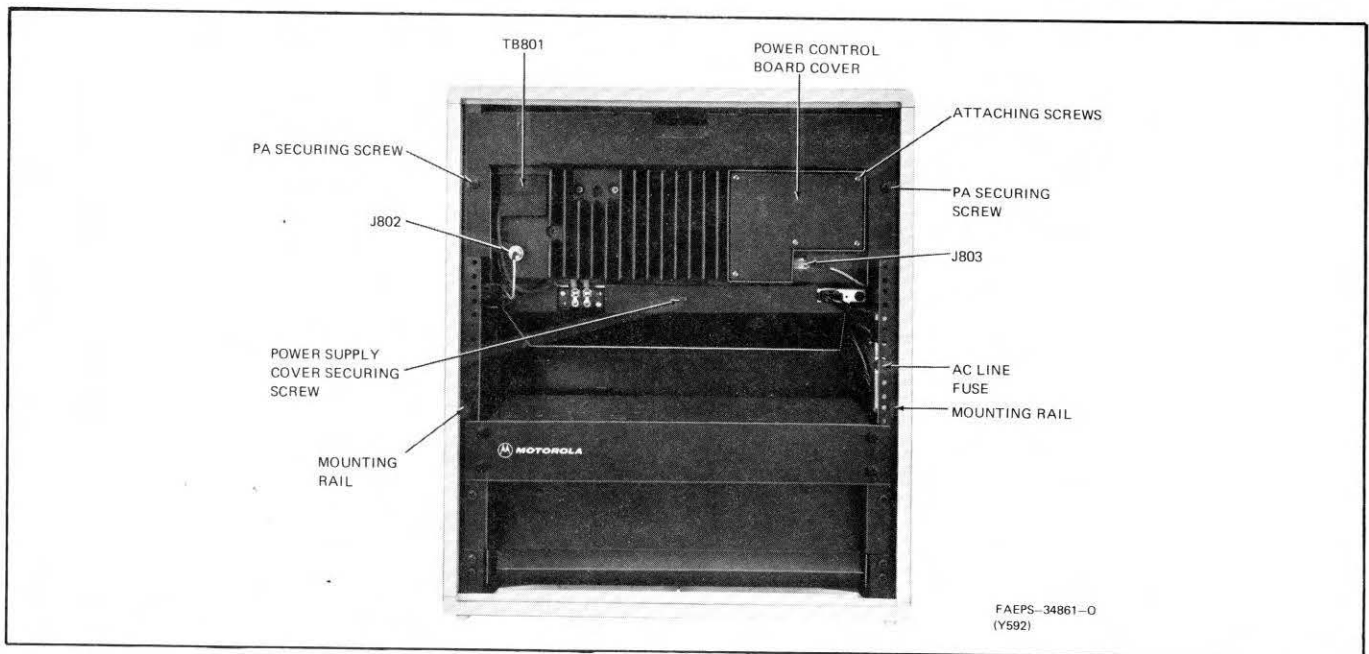

Figure 1. PA and Power Supply Detail of Intermittent Duty Station
5.1.2 The ac line fuse is located on the front side of the junction box at the right-hand side of the cabinet (refer to Figures 1 and 3). To replace the fuse, disconnect the line cord from the junction box. Unscrew the fuseholder cover from the fuseholder with a screwdriver.
5.2.1.1 To gain access to the power control board for servicing and metering, remove the 5 screws holding the cover over the power control board area of the PA casting (refer to Figure 1).
5.3 RF CONTROL CHASSIS ACCESS AND REMOVAL (Refer to Figures 1 and 3.)
5.7.2 To gain access to the power supply chassis, remove the power supply cover plate located under the PA chassis. It is retained by a single screw in the upper center of the cover (refer to Figures 1 and 3). For continuous duty stations, remove the top power supply cover plate located directly behind the PA chassis. It is retained by two screws located in the lower left and right hand corners. It may also be necessary to remove the PA chassis from the station housing, refer to the Power Amplifier Removal and Access paragraph in this section.